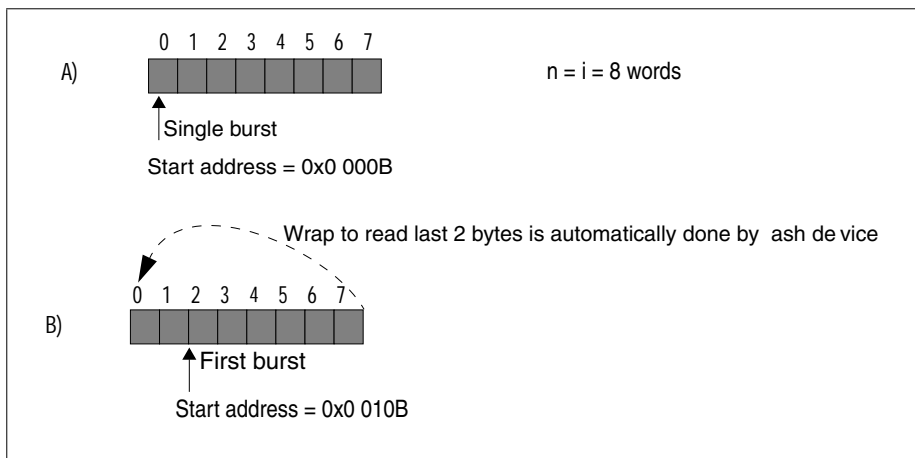

Figure 8: Burst on a flash with a single access
- $n = i$: the EMI performs one burst access during which it gets the exact number of words as requested (see Example A in *Figure 8* with $n = i = 8$). Depending on the starting address, there will possibly be a wrap that is automatically completed by the flash device. The wrap happens when the starting address is not aligned on a [n]-byte word boundary.